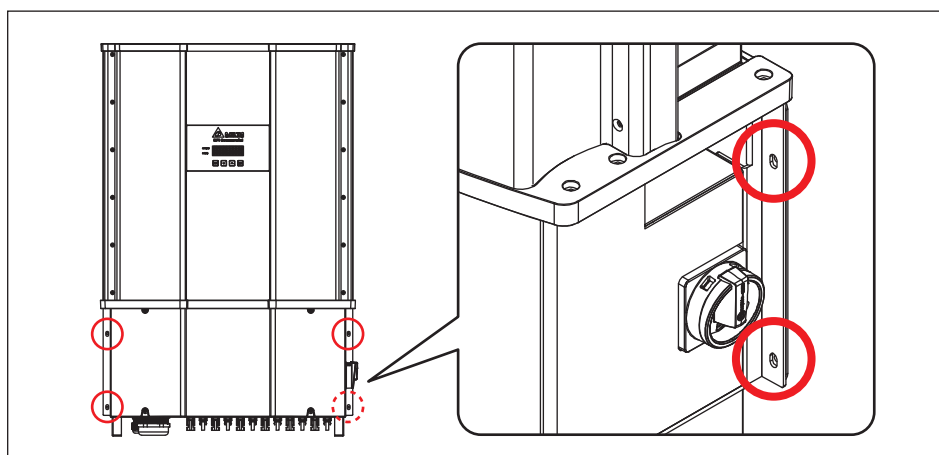

Figure 3-7 : Specification of fixing WB for wall-mounting installation
5. **Figure 3-7** shows the installation detail for fixing the wiring box.